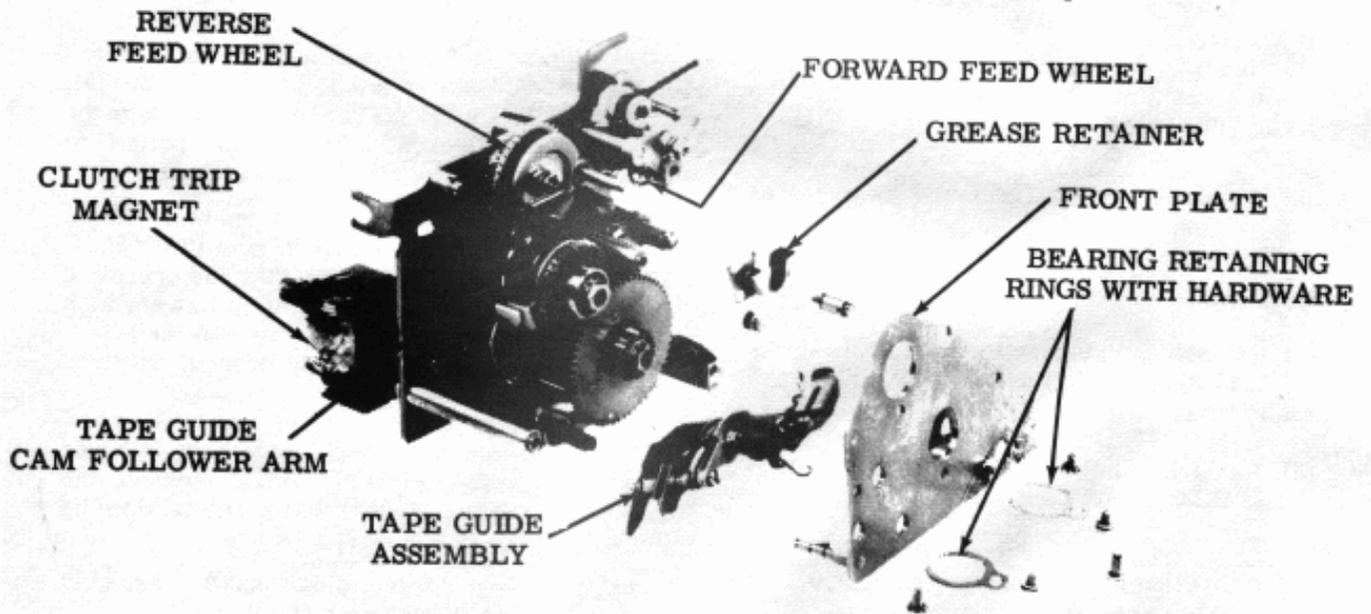

Figure 10 - Punch Backup Mechanism, Front Plate Removed
- (2) Remove the magnet assembly by sliding the armature bail (TP320370) out of the lever (TP320374).
- 3.10 To separate the front and rear plates (Figure 10):
- 3.13 To remove the drive shaft assembly (TP320380) (Figure 10):
- 3.14 To remove the intermediate shaft assembly (TP320378) (Figure 10):